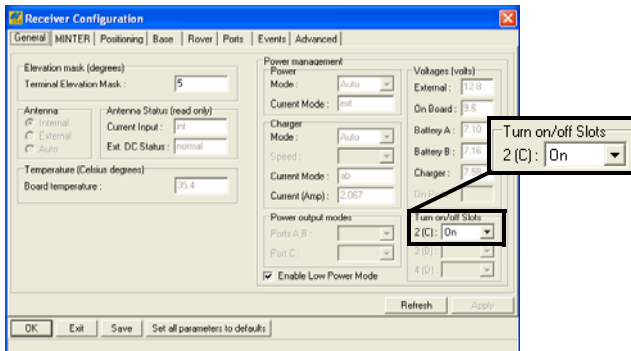

Figure 2-9. Select Power Output Modes – Ports and Slots
5. Select the *Turn on/off Slots* drop-down list to set power output on internal slots (Figure 2-9).